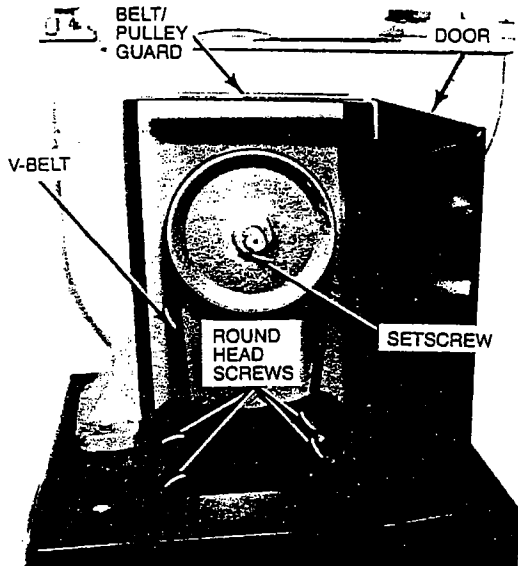

FIGURE 10
1. Position belt/pulley guard over belt opening at top of stand (Figure 10).